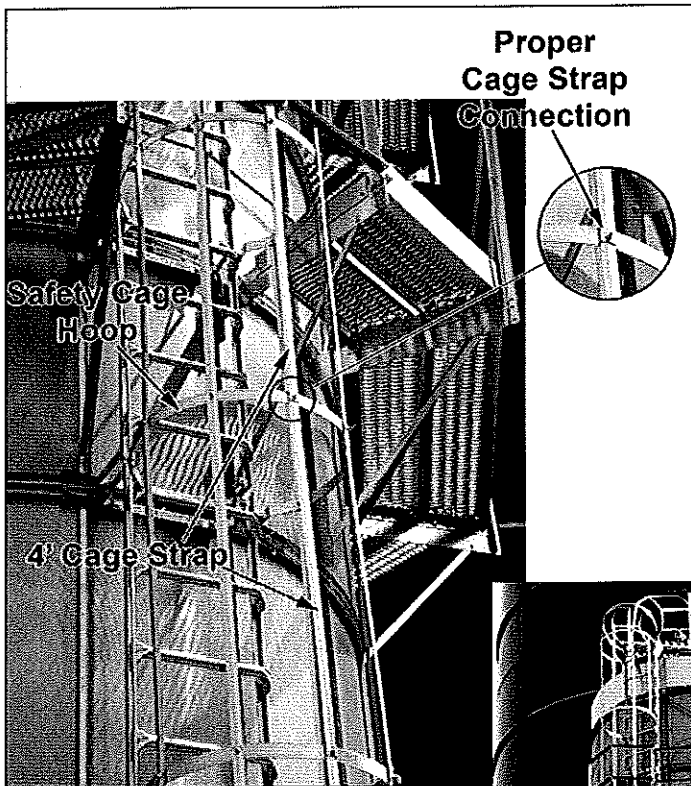

Figure 24
- The upper holes of the top 4 ft. straps are bolted to the cage hoop of the ladder cage directly above, sharing the 5/15-18 x 1" bolts and locknuts. See Figure 24.
- The bottom holes of the top (4) 4 ft. straps that complete the cage share the same bolts that are used for the upper holes of the (4) straps used in the lower 4 ft. ladder cage. See Figure 24.